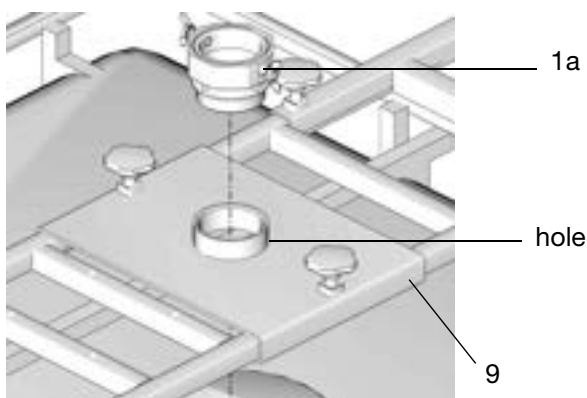

FIG. 10
1. Thread the pump bung adapter (1a) into the hole in the top bracket (9). Hand tighten securely (FIG. 10).
2. For NPT and BSPT models only, apply thread sealant to the threads of the suction tube/hose (3) then install the end of the suction tube/hose into the pump (1) inlet housing (FIG. 10).